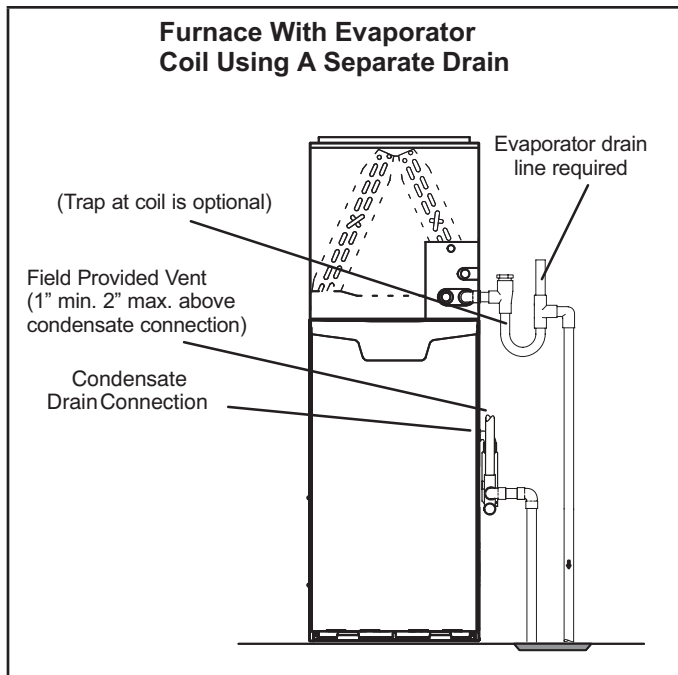
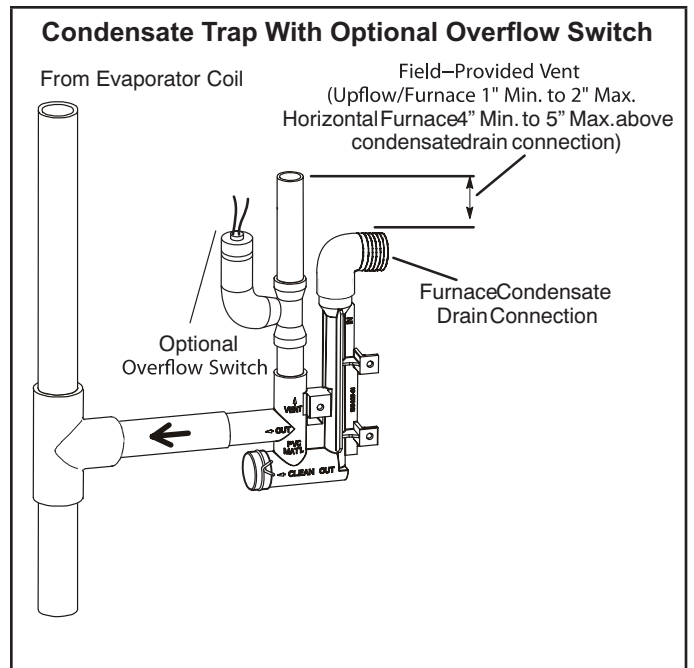
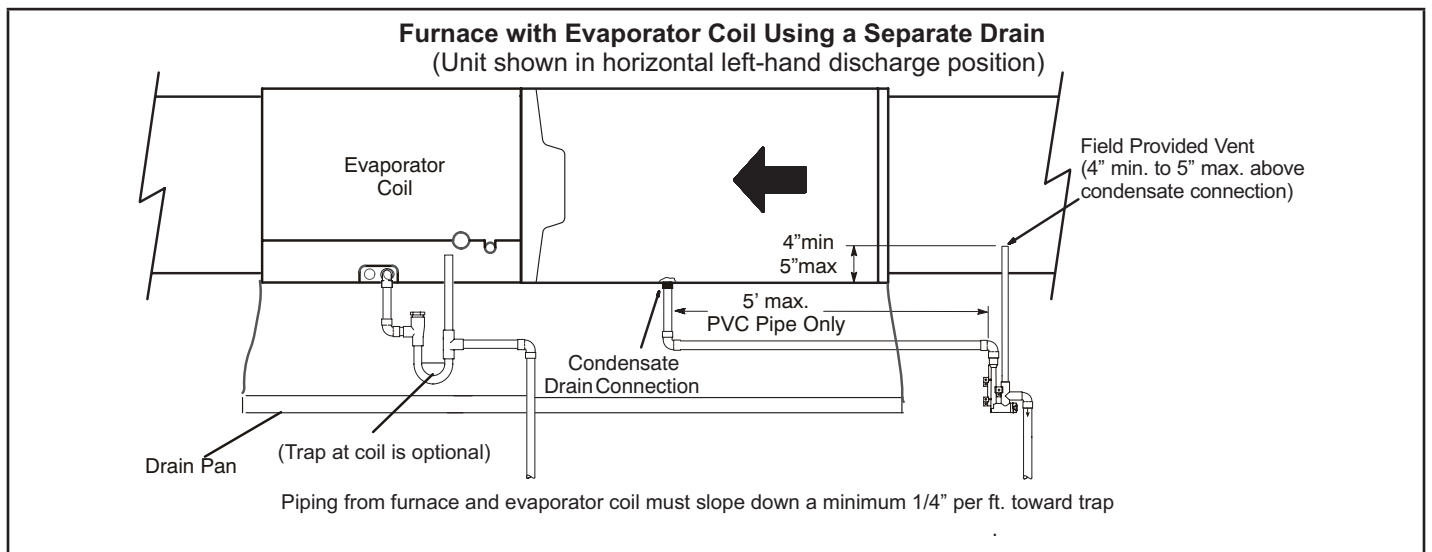
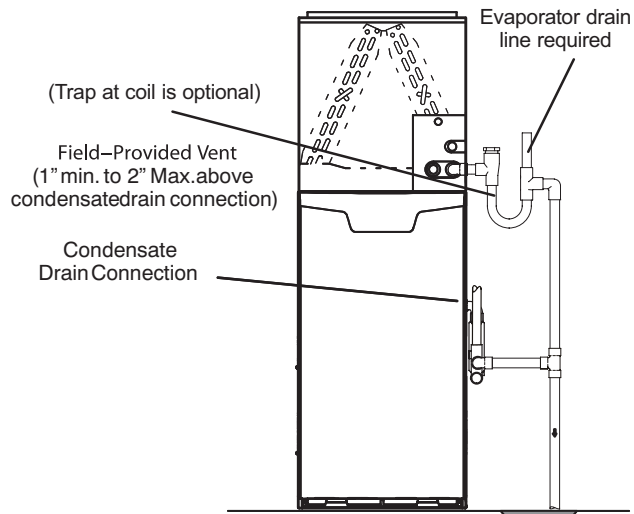

FIGURE 46
FIGURE 47
FIGURE 48
FIGURE 49
- 5 - FIGURE 46 and FIGURE 48 show the furnace and evaporator coil using a separate drain. If necessary the condensate line from the furnace and evaporator coil can drain together. See FIGURE 47, FIGURE 49 and FIGURE 50. **Upflow furnace (FIGURE 49)** - In upflow furnace applications the field provided vent must be a minimum 1" to a maximum 2" length above the condensate drain outlet connection. Any length above 2" may result in a flooded heat exchanger if the combined primary drain line were to become restricted. **Horizontal furnace (FIGURE 50)** - In horizontal furnace applications the field provided vent must be a minimum 4" to a maximum 5" length above the condensate drain outlet connection. Any length above 5" may result in a flooded heat exchanger if the combined primary drain line were to become restricted.